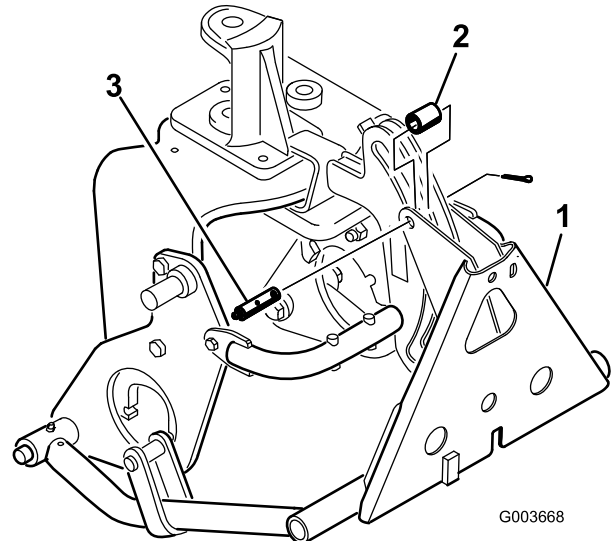

Figure 10
8. Secure the frame adapter to the hitch frame with a tube, clevis pin and cotter pin (Figure 10).